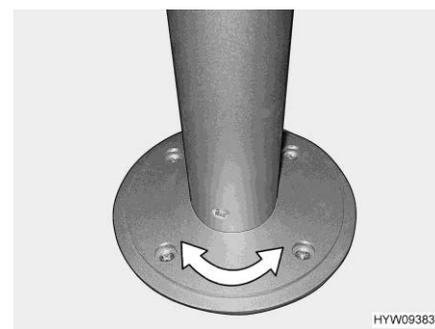

Fig. 133 Pillar table leg (rotatable) (dependent on model)
- Rotate table top to the desired position. In order to do this, you need a little effort, because the table top rotates against the friction resistance on the pillar table leg (Fig. 133).